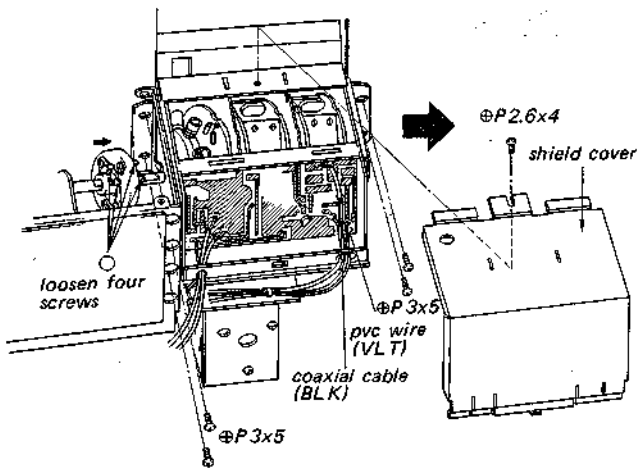

Fig. 2-9
3. Remove the five screws and the shield cover as shown in Fig. 2-9 and unsolder the two lead wires.